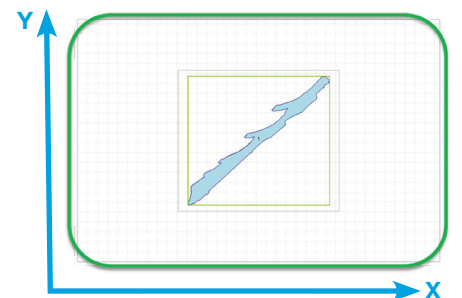

Figure 10: A single part packed in a Fortus 900mc is oriented along a diagonal from the front left corner to the back right corner of the build platen.
**Fortus 900mc:** Align the part's long axis along a diagonal between the front-left and back-right corners (Figure 10).